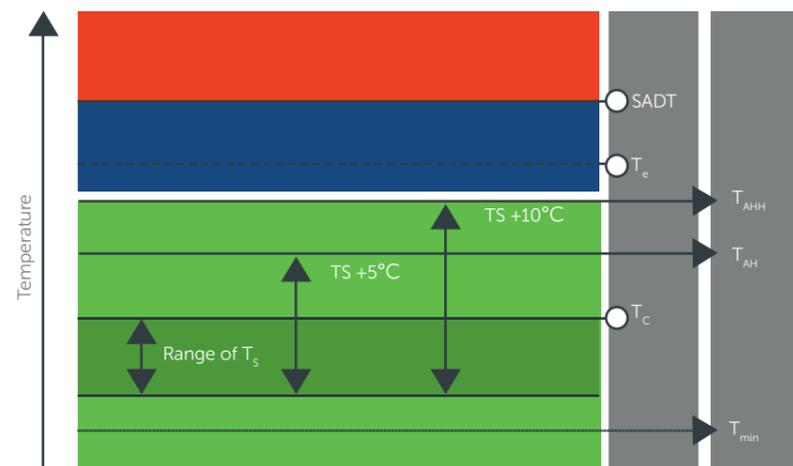

Figure 1: Schematic representation of all temperatures relevant for transport
A schematic representation of all relevant temperatures is given in Figure 1.
- Correct temperature setting of T_s , T_{AHH} , T_{AH} , T_{min} (see Figure 1)